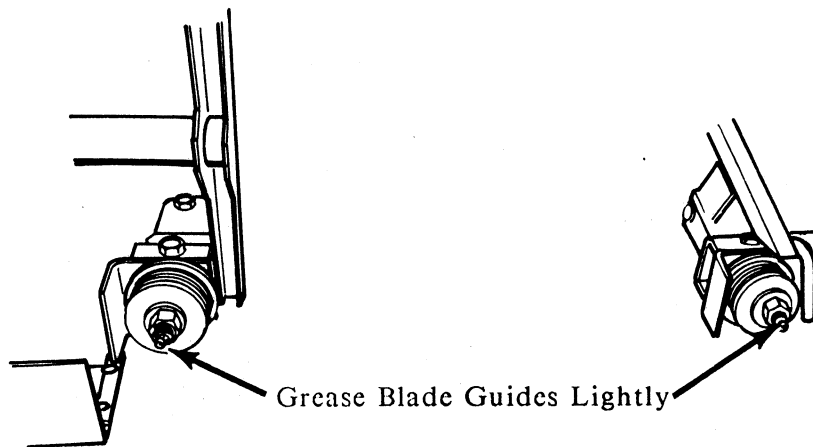

FIGURE 1
1. Grease the two blade guides (See Figure 1). Do not lubricate until grease is oozing out of the gaps. The purpose of greasing every two hours is to purge the sawdust out of the bearings.